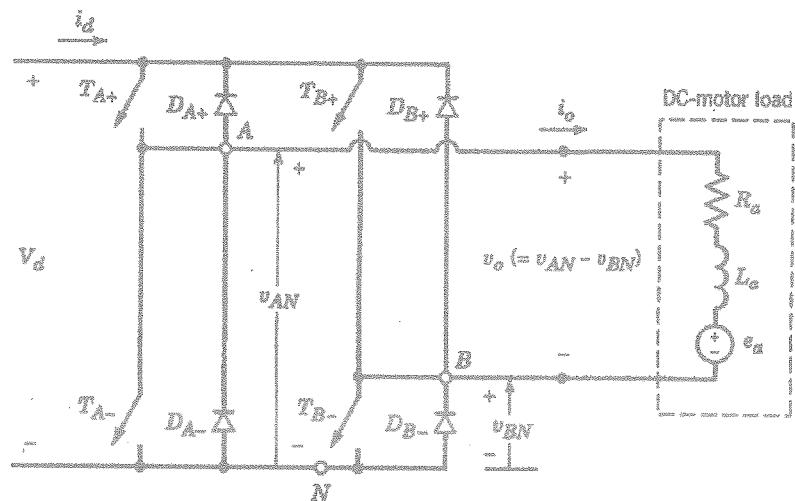

Figure Q3(b) DC-DC full-bridge converter connected with a DC motor
- b) Consider the full-bridge DC-DC converter given in Figure Q3(b).
- ii) Sketch the waveforms of  $v_{AN}$ ,  $v_{BN}$ ,  $v_o$  and  $i_o$  for three half cycles of the triangular signal, used in the PWM generator, indicating which devices are conducting, if the converter shown in Figure Q3(b) uses the PWM with bi-polar voltage switching.
- c) The armature of a 4.0 hP, 1500 rpm separately excited DC motor is supplied by a full bridge DC-DC converter as illustrated in Figure Q3(b). The armature inductance and the voltage constant of the DC motor are 1.5 mH and 0.11 V/rpm, respectively. The armature resistance is negligible. The input DC voltage to the converter is 300 V. If the converter uses the PWM with bi-polar voltage switching with the switching frequency ( $f_s$ ) of 25 kHz and the DC motor runs its rated load,